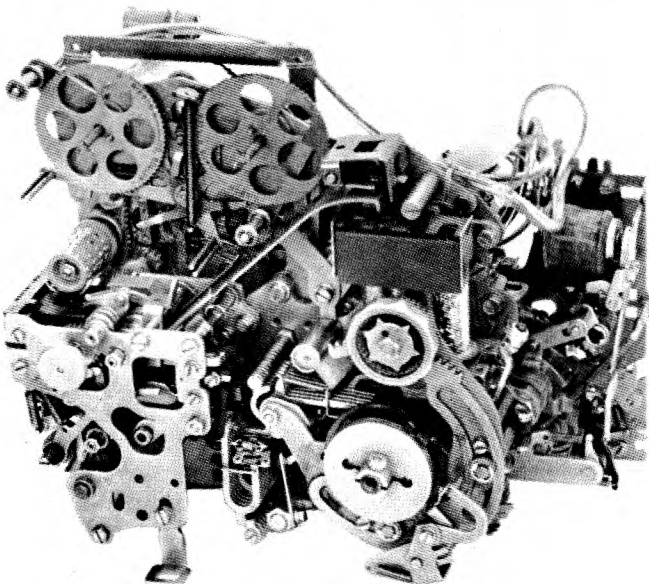

Figure 1 - Typical 35 Typing Reperforator
1.01 This section provides adjustments and requirements for the 35 typing reperforator (Figure 1). The section has been revised to include recent engineering changes and additions and to rearrange the text. Since this is a general revision, marginal arrows ordinarily used to indicate changes and additions are omitted.